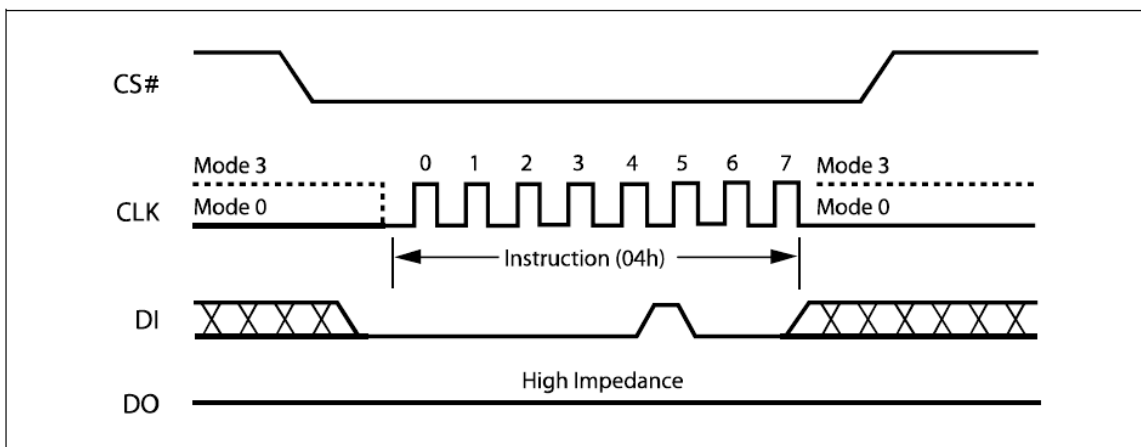

Figure 6. Write Disable Instruction Sequence Diagram
The Write Disable instruction (Figure 6) resets the Write Enable Latch (WEL) bit in the Status Register to a 0 or exit from OTP mode to normal mode. The Write Disable instruction is entered by driving Chip Select (CS#) low, shifting the instruction code "04h" into the DI pin and then driving Chip Select (CS#) high. Note that the WEL bit is automatically reset after Power-up and upon completion of the Write Status Register, Page Program, Sector Erase, Block Erase (BE) and Chip Erase instructions.